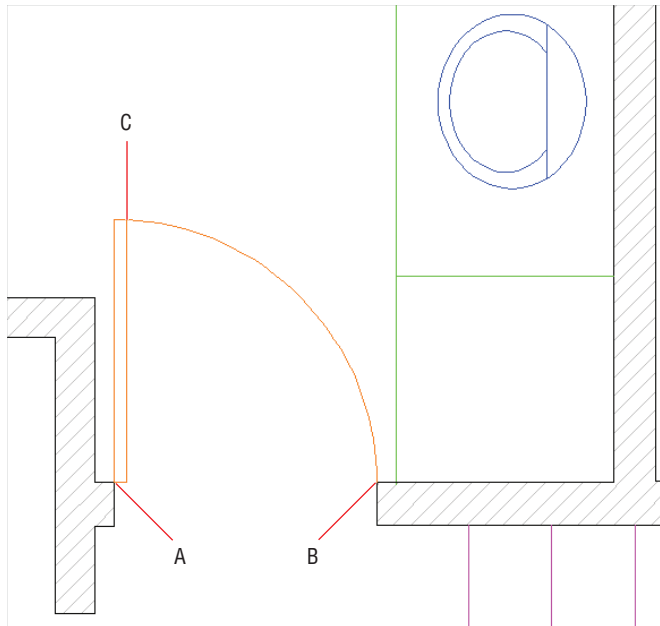

FIGURE 2.26 Drawing a door swing with an arc option
4. Type **INT**, press Enter to invoke the Intersection object snap, and click the center point A shown in Figure 2.26.
5. Hold Shift and right-click. Select Endpoint from the context menu, and click the start point B (shown in Figure 2.26).
6. Hold Shift and right-click, type **END**, and click the arc endpoint C (shown in Figure 2.26). The arc appears, and the command is completed.